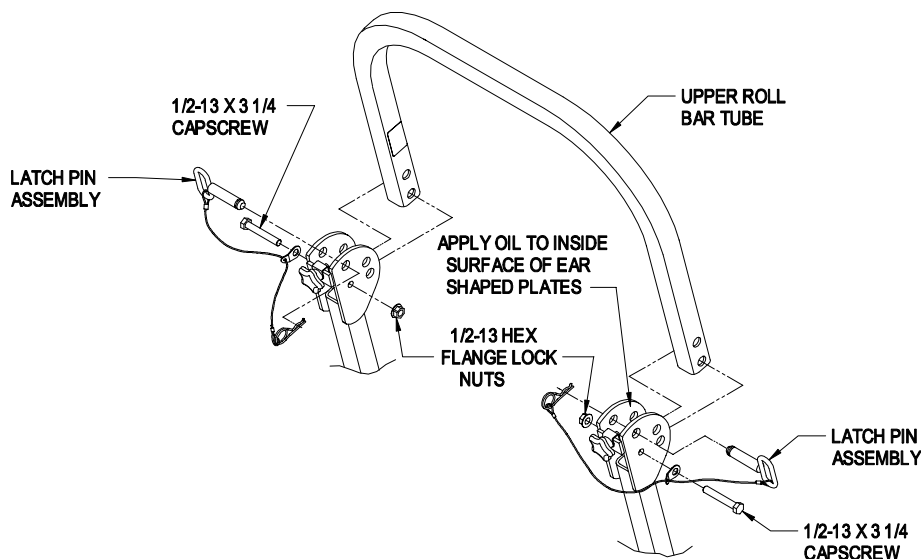

FIGURE 3
3.2.5 Install the upper u-shaped section of the roll bar. (Reference Figure 3 for alignment and installation instructions below):